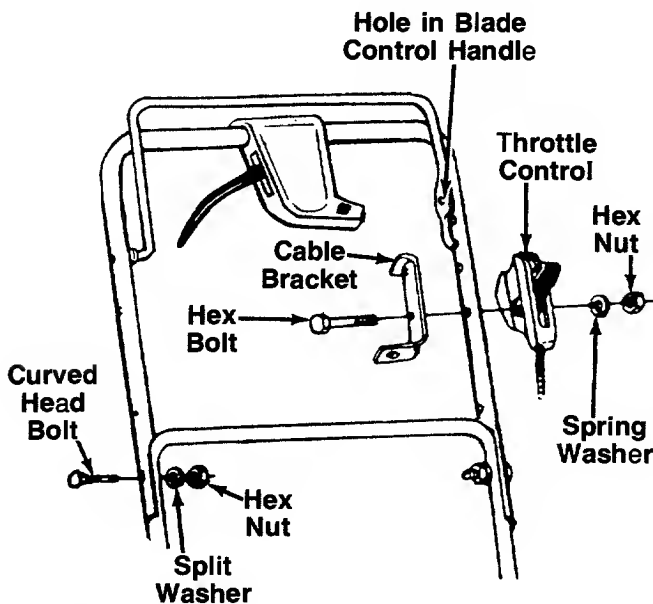

FIGURE 2.
2. Secure the upper handle using the curved head bolts, split washers and hex nuts as shown in figure 2. Tighten securely.
The throttle control is attached to the engine. Attach the throttle control to the **left** side of upper handle as follows. See figure 2.